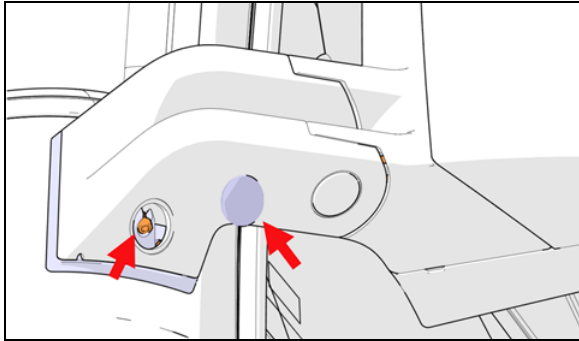

FIGURE 101
1. Remove the black plastic cap (Figure 101).
2. Loosen the clamping screw (do not remove) so that the mirror unit can be lifted from the mounting plate (Figure 101).